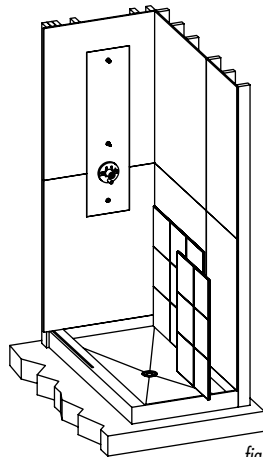

figure 20
2. Carefully place wall panel 2B into place, making sure the grout lines are aligned. Use a 1/8" spacer between the shower pan and the bottom of the panel. Leave no space between the panels. Match the space between the panels with the rest of the grout lines on the panel, use spacers if necessary. (fig. 20).